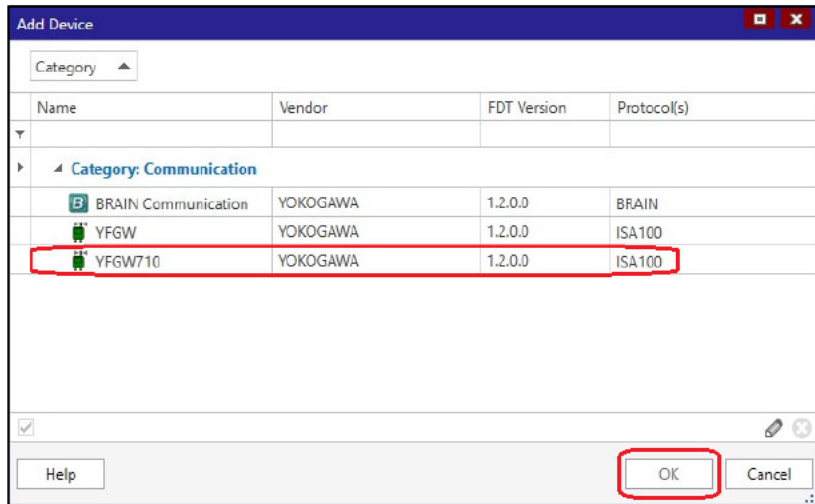

Figure 5-40 Selecting ISA100.11a wireless upstream system
- ② Select the ISA100.11a wireless upstream system “YFGW710” in the device list. (Figure 5-40)